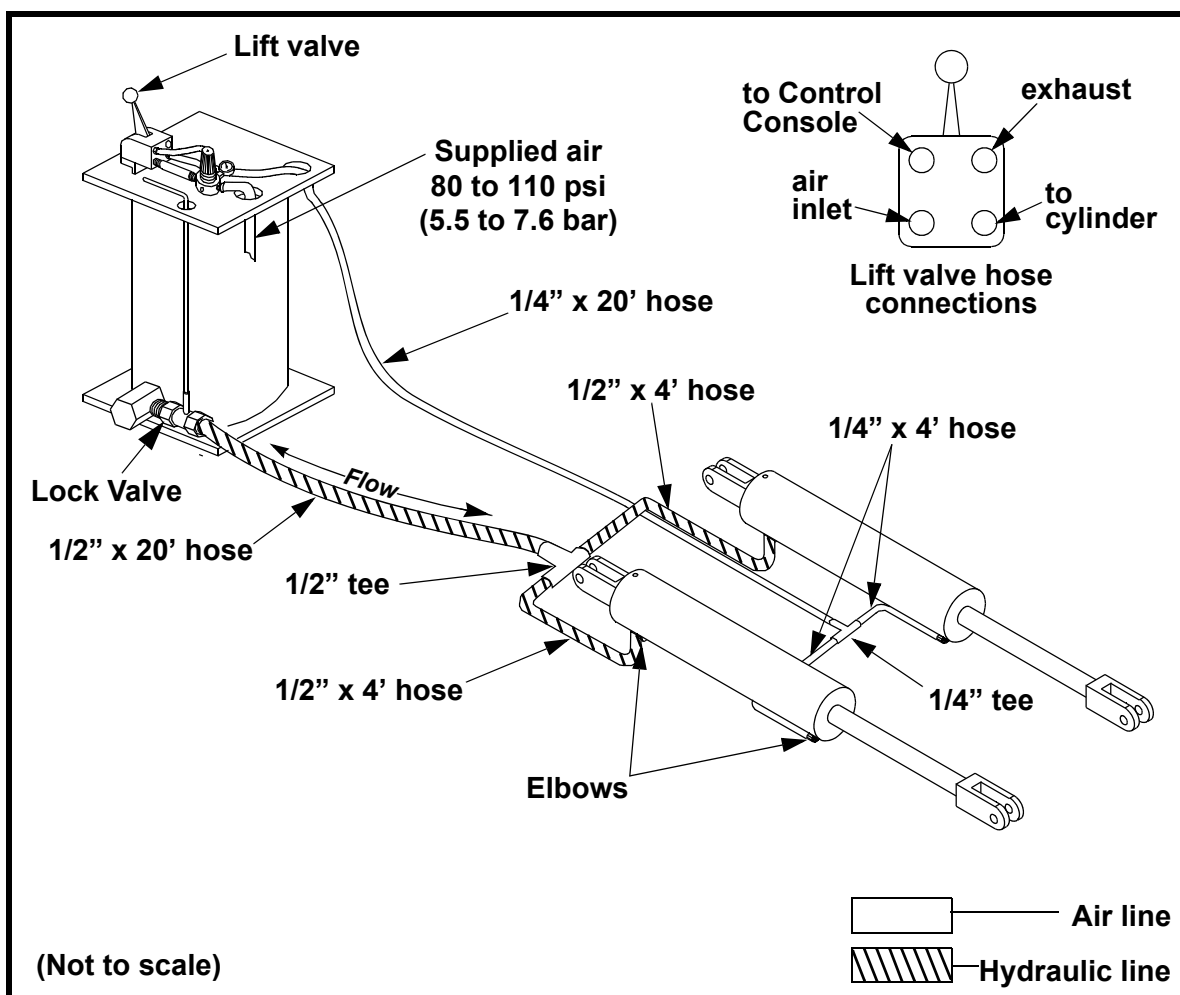

Figure 3. Hose Connections for Models SBL-13, SBL-24, SBL-30, SBL-35, SBL-48, and SBLR-18
2. Install two 90° street elbows into each SBL-13, SBL-24, SBL-30, SBL-35, SBL-48, and SBLR-18 lift cylinder (see Figure 3).
3. Connect hoses to lift cylinders and control console as shown in Figure 3. Route hoses *under* tracks. Make sure hoses are not pinched or kinked.
See Figures 3 and 4. Run a filtered, 1/4-in. air line (supplied by the customer) from the air supply to the regulator on the control console.